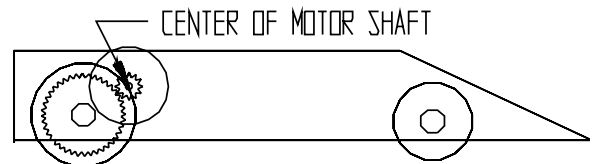

FIG. 19
Step 11. Move cursor to the center of the motor shaft, coordinates (1.8, -.4, .85) and click for the center of the small gear, **Fig. 19**.